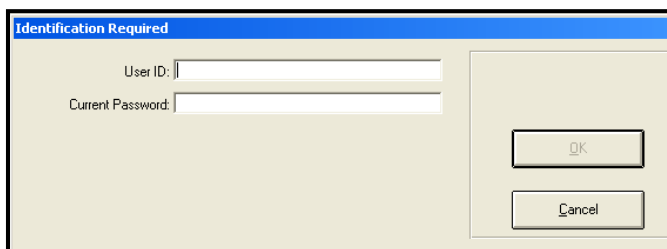

Figure 8: Identification Required Box
4. The **Identification Required** dialog box (shown in Figure 8 below) appears.